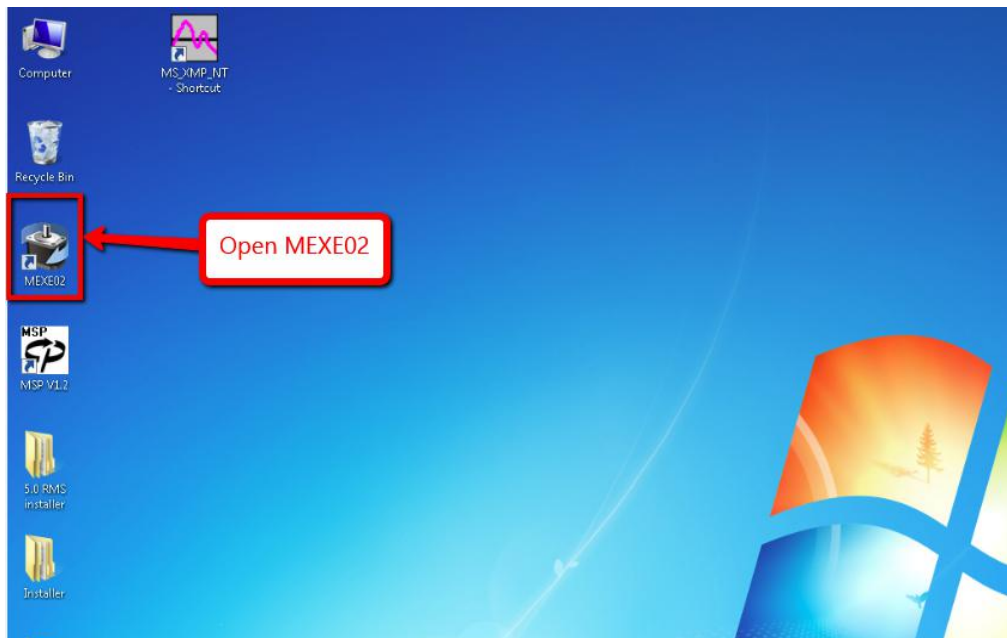

Figure 11 MEXE02 software
11. Open the MEXE02 software as shown in the Figure 11.